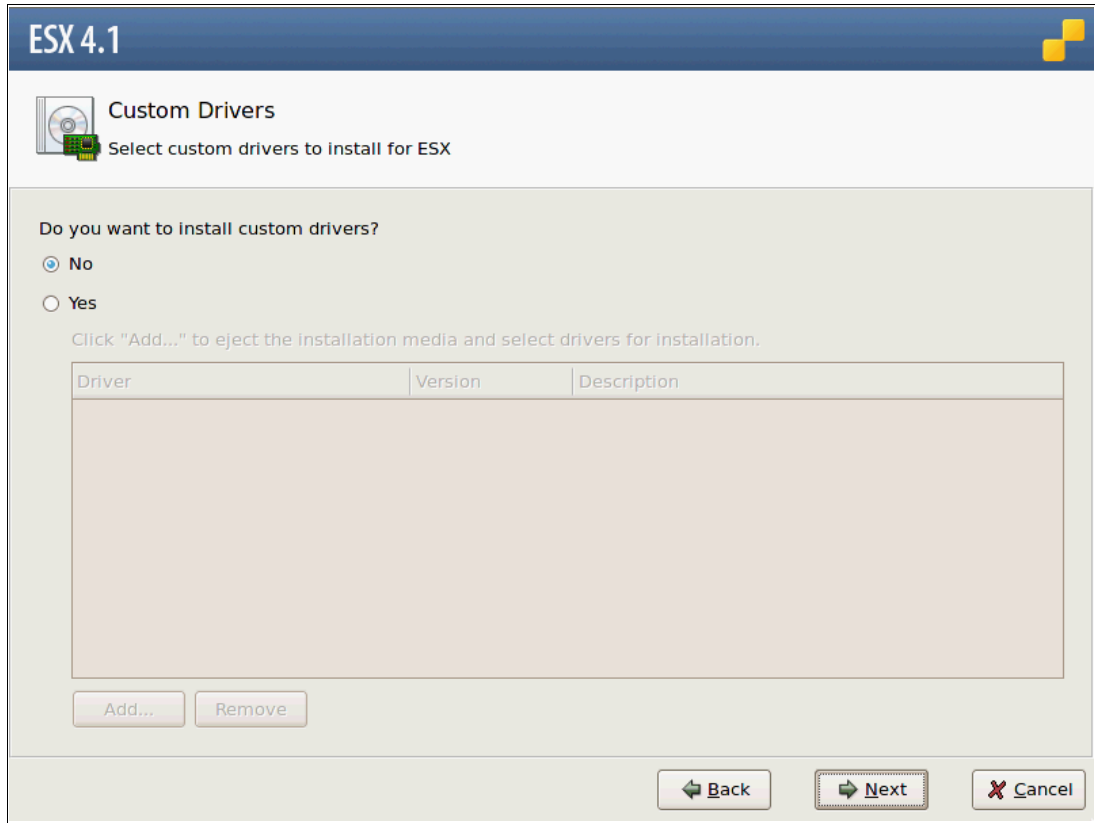

Figure 22-16 ESX Custom Drivers
5. In the Custom Drivers window (Figure 22-16), if needed, install any custom device drivers. If not, accept the default option (No) and click **Next**.